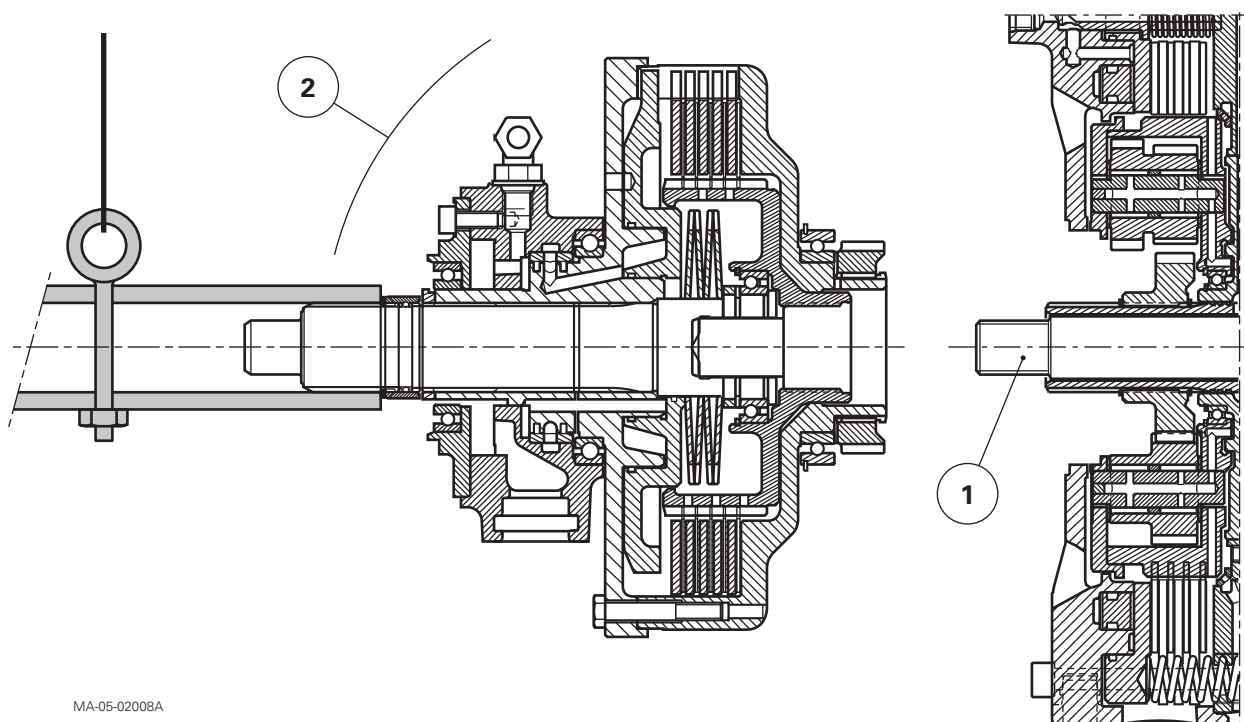

Fig. 5
6. Remove the forward clutch (2) (Fig. 5) and release it from the housing using a makeshift tool (see § G).
8. Check that the PTO shaft (1) is installed (Fig. 5).
60. Refit the clutch to the cover plate (38) of the reverse clutch, using the tool used in Fig. 5, § B.